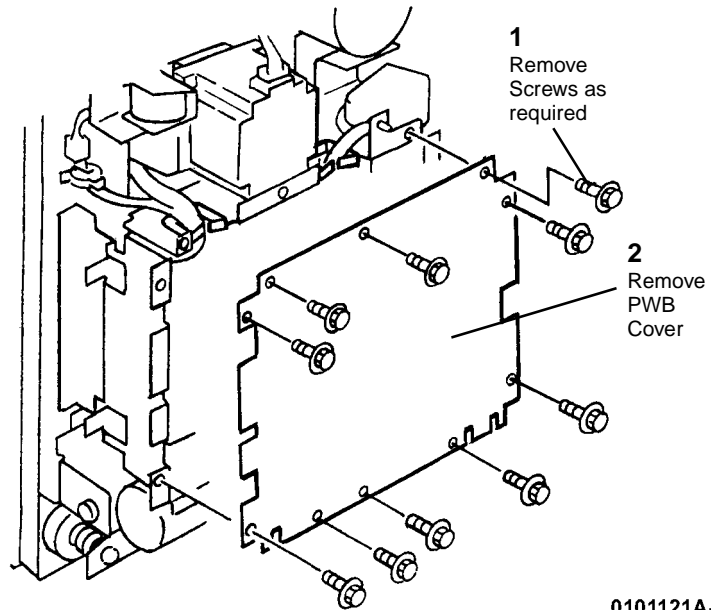

Figure 1 Removing PWB Cover
3. Remove the PWB Cover (Figure 1).